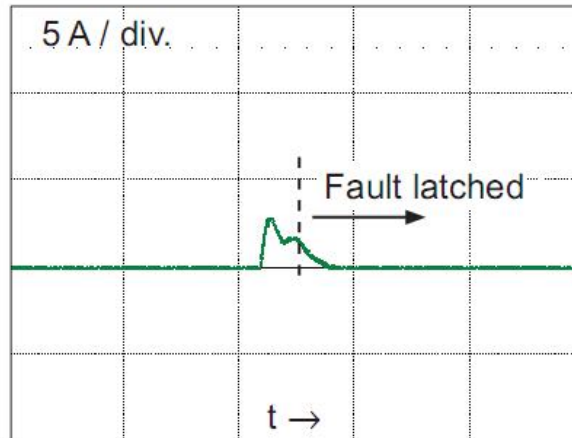

Figure 4. Short-to-ground event
**Protection.** If the motor leads are shorted together, or if one of the leads is shorted to ground, the driver will protect itself by sensing the overcurrent event and disabling the driver that is shorted, protecting the device from damage. In the case of a short-to-ground, the device will remain disabled (latched) until the SLEEP input goes high or VDD power is removed. A short-to-ground overcurrent event is shown in Figure 4.